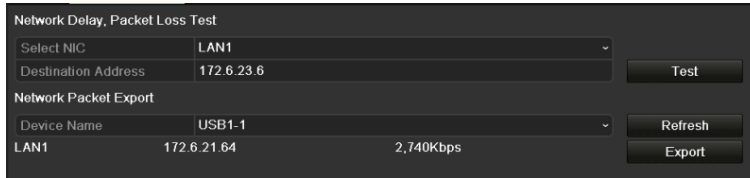

Figure 13-26 Export Network Packet
Step 3 Select the backup device from the dropdown list of Device Name, as shown in Figure 13-26.